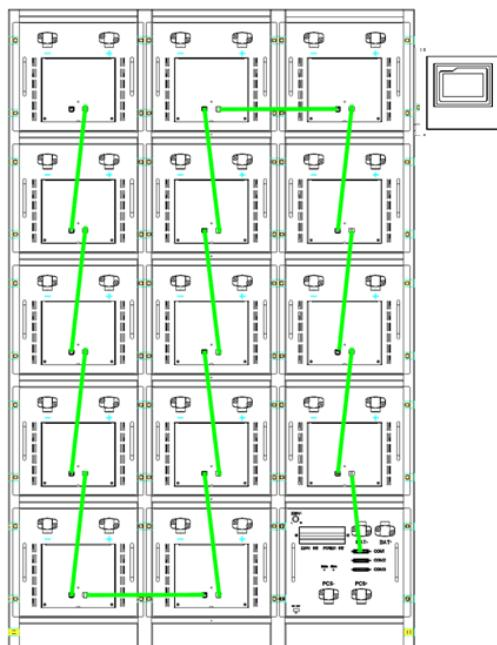

Figure 6-6 Battery cluster communication cable wiring diagram
- 2) According to the wiring position shown in Figure 6-6, each cluster is connected to the battery module communication line in the S-shape from the lower right corner.